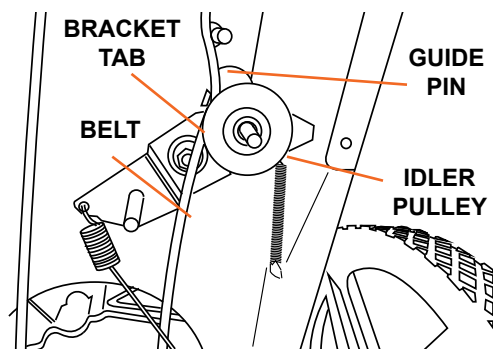

Figure 16
8. Install the small spacer and flat idler pulley (Figure 16). Make sure you place the belt correctly between the idler pulley, bracket tab, and guide pin.